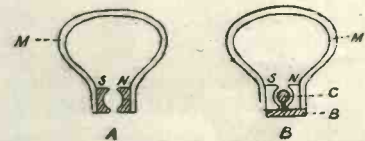

Fig. 3.—(a) Permanent magnet of moving-coil direct current Weston ammeter. (b) Showing fixed soft-iron cylinder for producing uniform magnetic field.
The construction of the Weston moving-coil instrument may be taken as typical of that of the moving-coil class of ammeters. In Fig. 3 (A) is shown a permanent horse-shoe magnet with pole-pieces S, N, attached so as to leave a cylindrical space in which a small rectangular coil of wire may rotate about an axis co-axial with the cylindrical tunnel. The intensity of the magnetic field in S, N in Fig. 3 (A) will be greatest at the parts where the pole pieces come close together and will be less at the intermediate parts. In order to provide a uniform field in which the coil may rotate, a soft-iron cylinder C is introduced, as shown in Fig. 3 (B). This has the effect of making a practically uniform air gap across which the